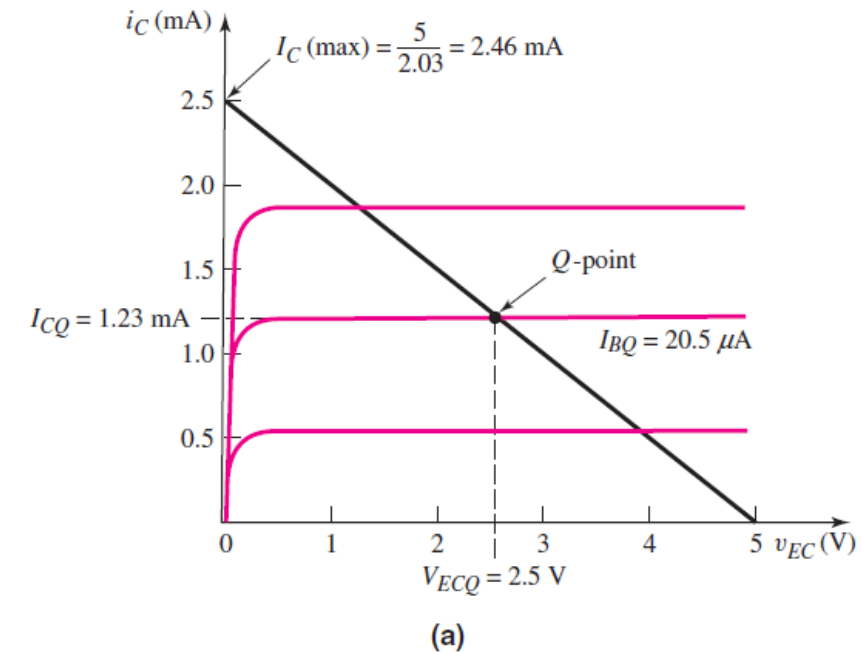

Figure 5.37
- The load line, using the **nominal value of  $R_E$** , and the calculated  $Q$ -point are shown in Figure 5.37(a).